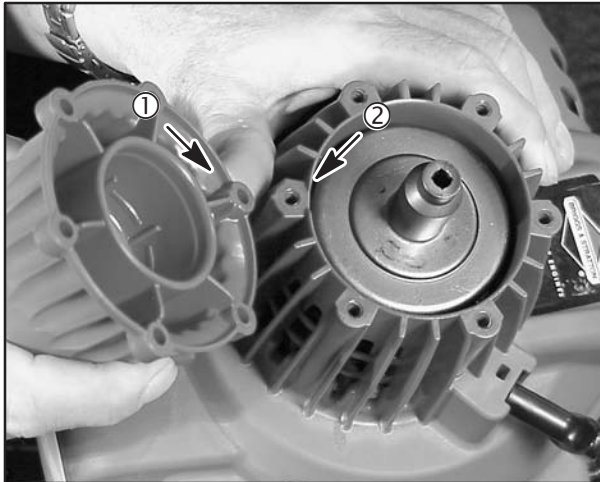

Fig. 16
NOTE: Raised boss (1) on clutch housing cover must fit in recessed boss (2) on blower housing, Fig. 16.